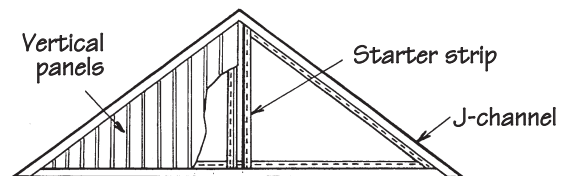

Figure 59.
- Attach either vertical siding starter strip or two back-to-back regular starter strips, centered with the peak of the gable (Fig. 59). This area should be flashed prior to installing the starter strips.